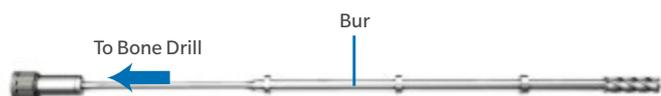

Fig. 43
- Attach the Bur to the bone drill (Fig. 43).